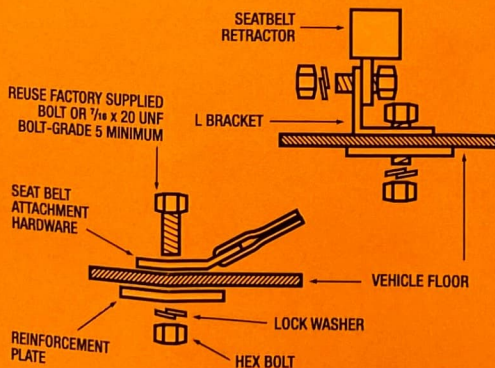

FIGURE 3 - REINFORCEMENT PLATE INSTALLATION
- Use a flat washer between the seat belt anchor and bolt head (See Figure 3).